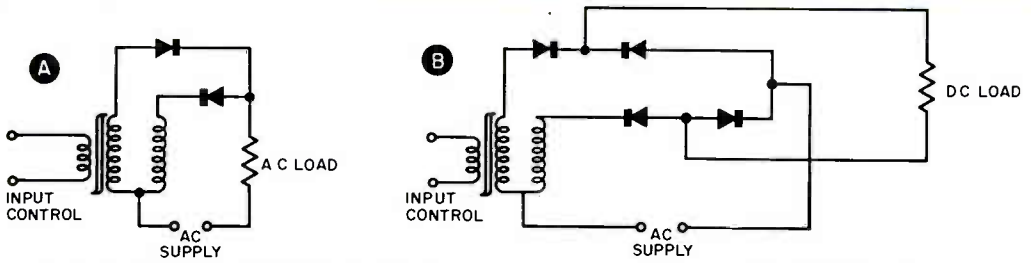

FIG. 5. (A) Opposing windings with 2 diodes improves efficiency. (B) Addition of 2 more diodes converts AC for a DC load.
We have faults in our basic amplifier. We can readily point one out by referring to a half wave rectifier power supply. We know that it is inefficient as compared to a full wave or bridge rectifier. Also, because of transformer action, we would get power loss due to that which would be generated back into the control circuit. A look at Fig. 5(A) will readily explain how to overcome these two problems. We now have a high gain, efficient amplifier of practical design. We see, first of all, that we have two windings in the load circuit, wound in an opposing manner. This neutralizes any transformer action, since two waves will appear across the